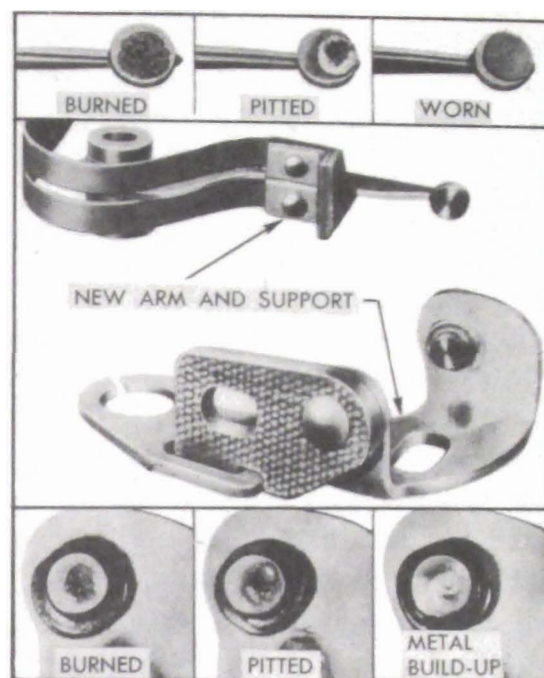

Figure 10-70—New and Worn Out Contact Points
4. Excessively burned, pitted or worn contact points cannot be cleaned up and aligned satisfactorily; therefore, they must be replaced to insure satisfactory ignition. See figure 10-70. See paragraph 10-46 for replacement of contact points.